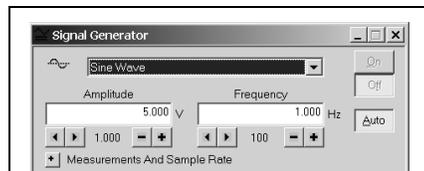

Figure 3: Signal Generator dialog in DataStudio
2. Adjust the amplitude and frequency with the **plus (+)** and **minus (-)** buttons (Figure 3) or type in a numerical value. Use the arrows for stepped progression.